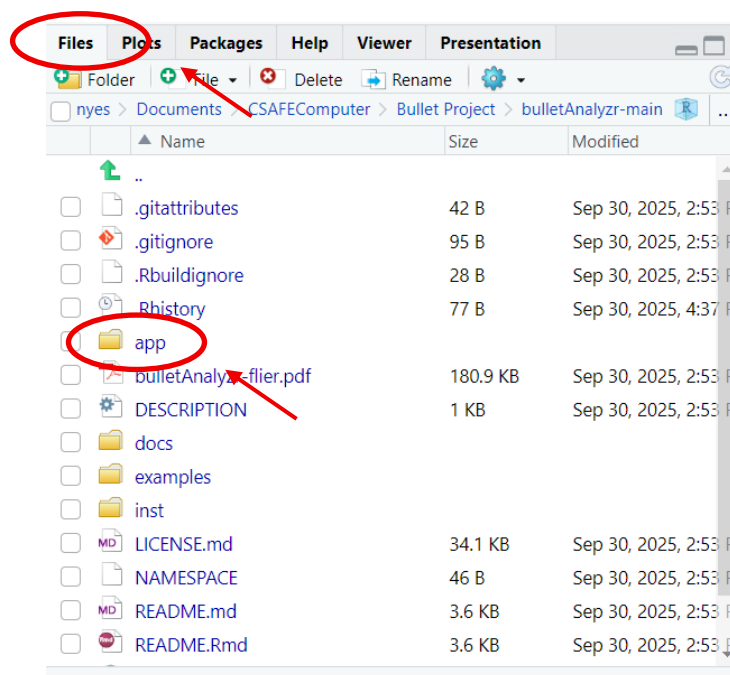

Figure 3. Find the Files tab in RStudio. Then open the app folder.
- Once BulletAnalyzr is open, navigate to the Files tab and double-click the app folder to open it. (Figure 3)